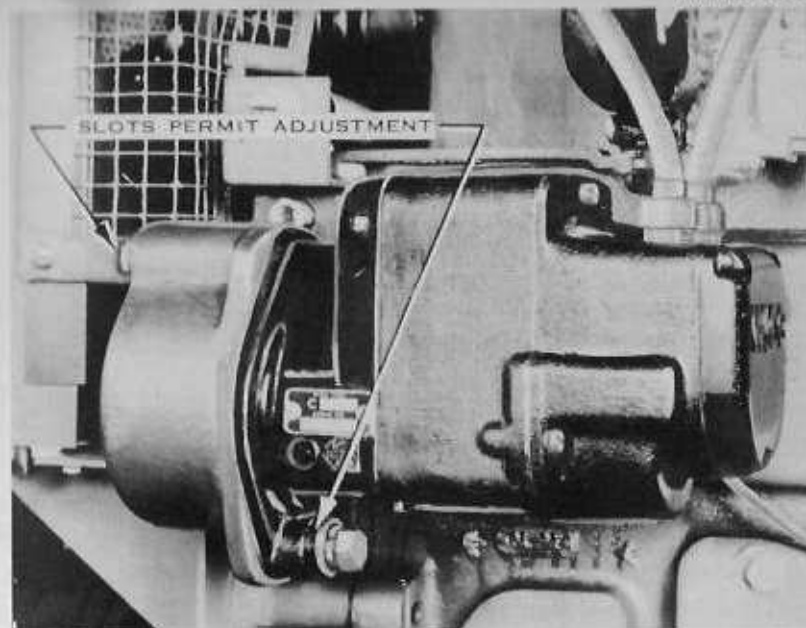

FIG. 55 MAGNETO MOUNTED ON ENGINE
- b. Then crank the engine very slowly and note whether the impulse coupling trips when the timing marks on flywheel and crankcase are exactly in line. If not, the timing is incorrect. If not too far off, it may be corrected by loosening the cap screws which hold the magneto flange and turning the magneto frame slightly. See Fig. 55. If too far off, it will be necessary to disengage the teeth of the magneto gear and turn it one or more teeth to advance, or to retard the timing. Make final adjustment by shifting the position of the magneto as already described. This method, times the spark to occur at top dead center at cranking speed. The impulse coupling advances the spark for normal running speeds. The advance should amount to 25° (about $1\frac{1}{4}$ fin pitches on the flywheel). If a neon test lamp is available, timing should be checked at running speed. If necessary, remove the magneto and move the impulse stop plate clockwise to decrease or counter-clockwise to increase the amount of advance. One division on the scale is equivalent to about 5° or $\frac{1}{4}$ fin pitch as measured on the flywheel. After changing the